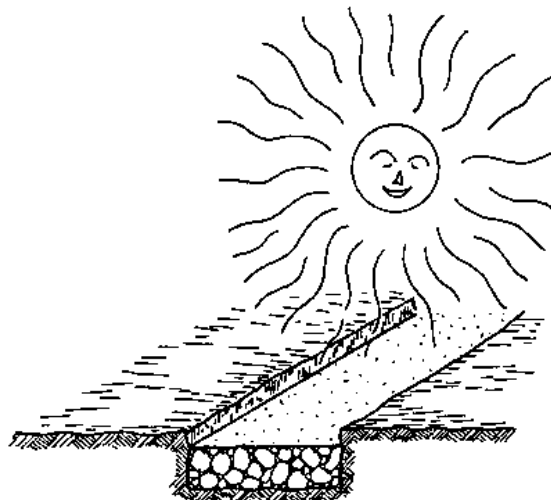

Fig. 3
- The sun, which can "burn" the surface of the concrete, so that although the concrete looks cured, under the surface it has not set hard enough (Fig. 3).